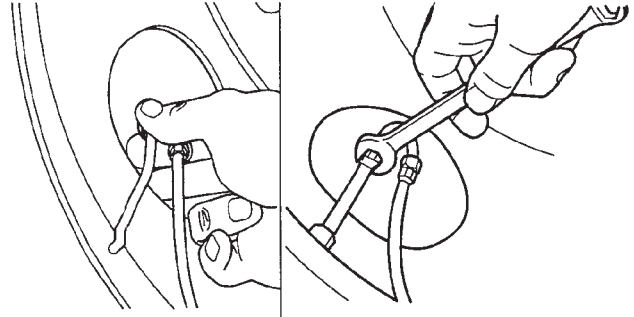

Figure 58: Reattaching tire hoses to tire valve stem
6. **Attach** tire hose(s) to tire valve stem(s) and tighten finger tight (Figure 58).
7. Using a $\frac{7}{16}$ inch wrench, **tighten** tire hose / valve stem connection an additional one-half turn (Figure 58). **Do not overtighten this connection.** Ensure hose connections are tight enough that, when moving the hose back and forth, it does not cause the connection to move.